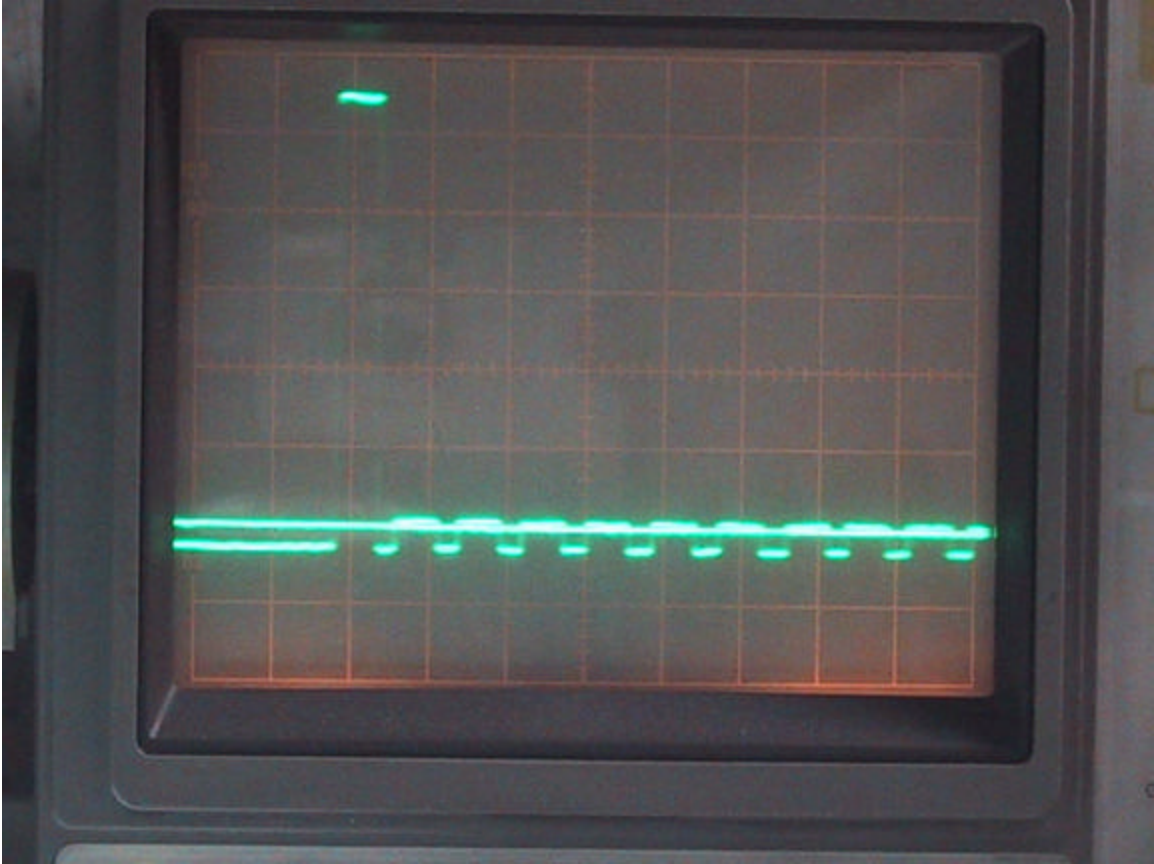

Figure 2
- e. The oscilloscope display should change to resemble figure 2 – the top of the first square wave will be appreciably higher than the tops of the remaining waves.